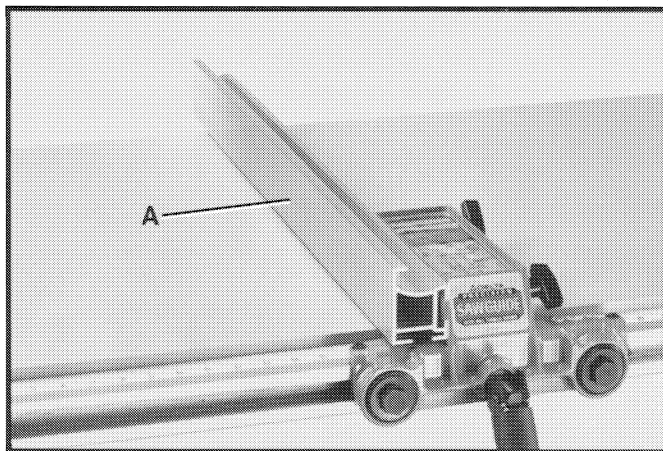

Fig. 70
2. For most normal ripping operations of standard size lumber, the fence (A) is used in the vertical (high) position, as shown in Fig. 70.